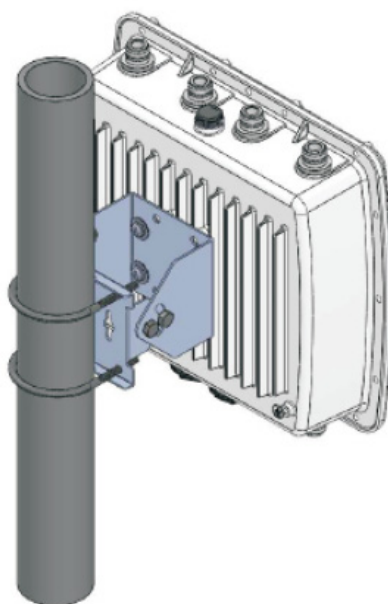

Figure 16. Pole Installation of the Access Point
The AT-TQ5403e access point can be mounted on a vertical pole or horizontal pole. see Figure 16.
- The access point must be installed the front panel down as shown in Figure 16.